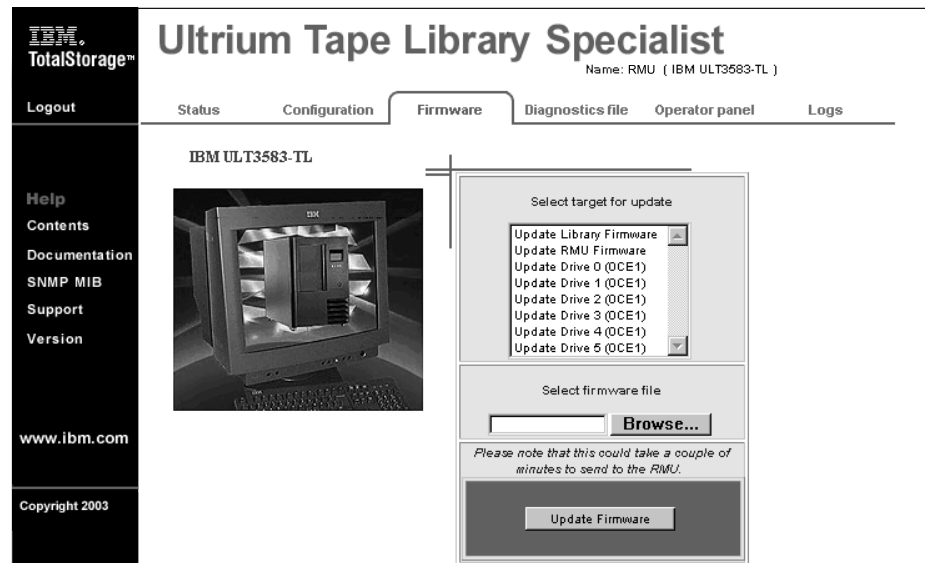

Figure 368. RMU firmware page
3. Use your web browser to access the TotalStorage Specialist, then select the Firmware tab (login, if necessary). The RMU firmware page displays (see Figure 368).